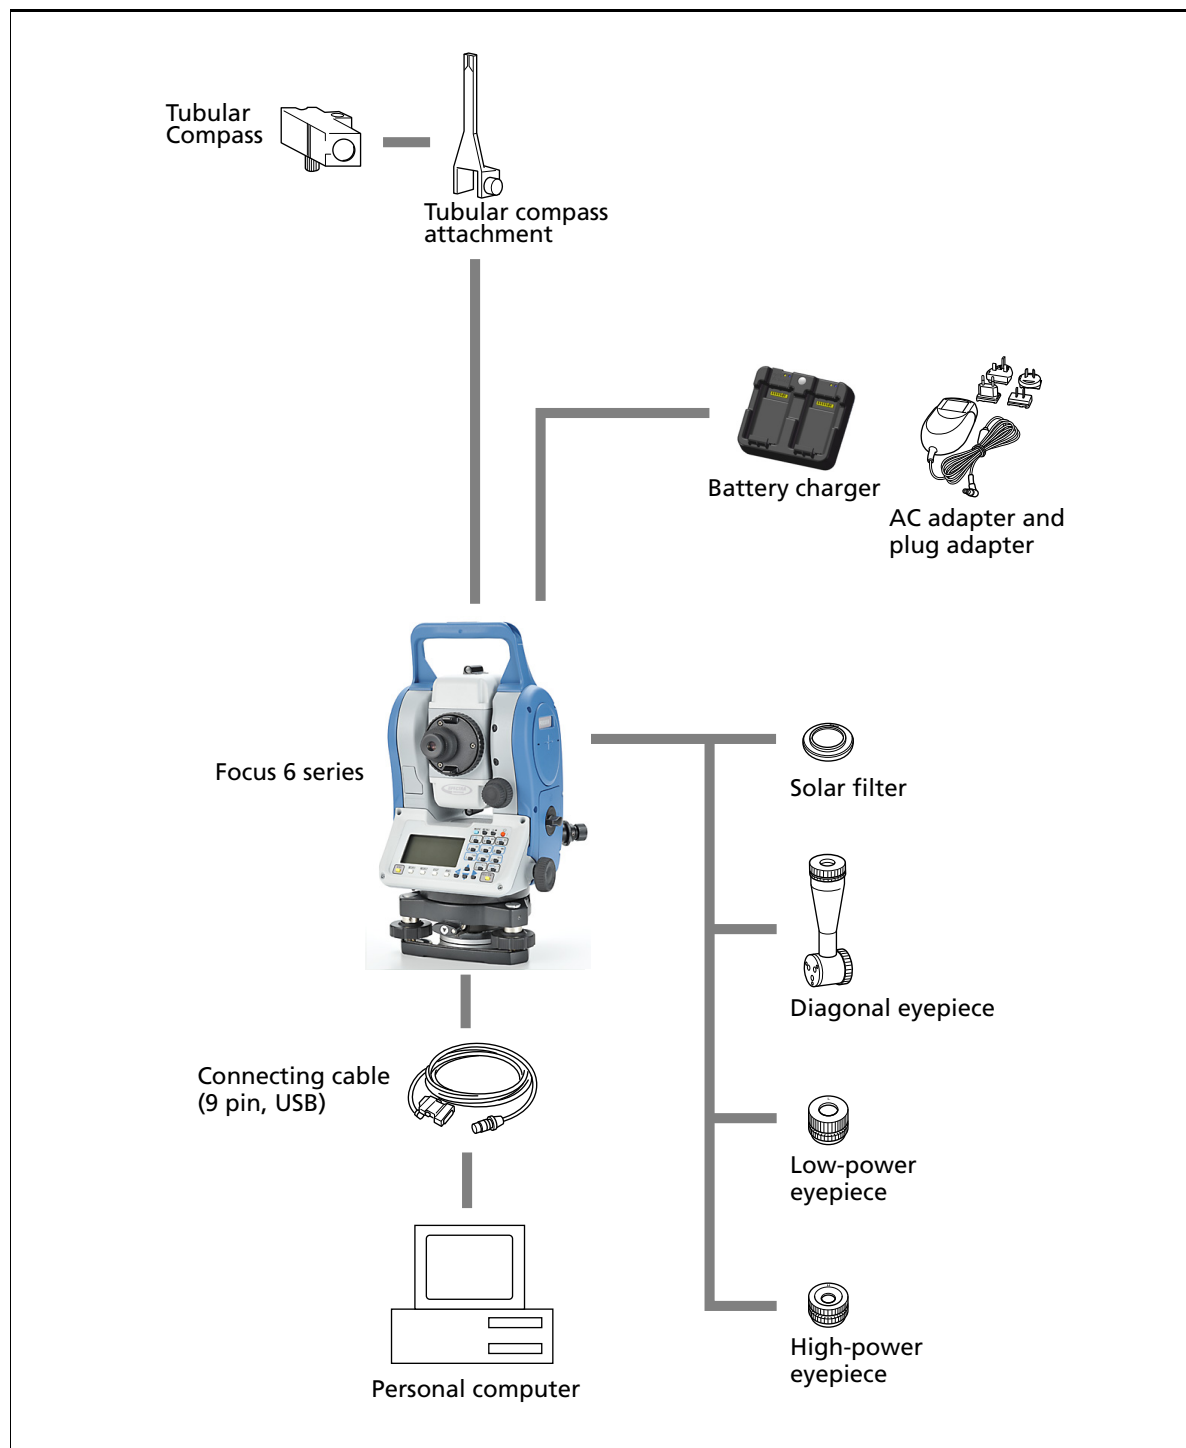

Figure 8.1 Measurement side
**CAUTION** – Except for the connection shown in Figure 8.1 on page 166, use of this connector is at your own risk.